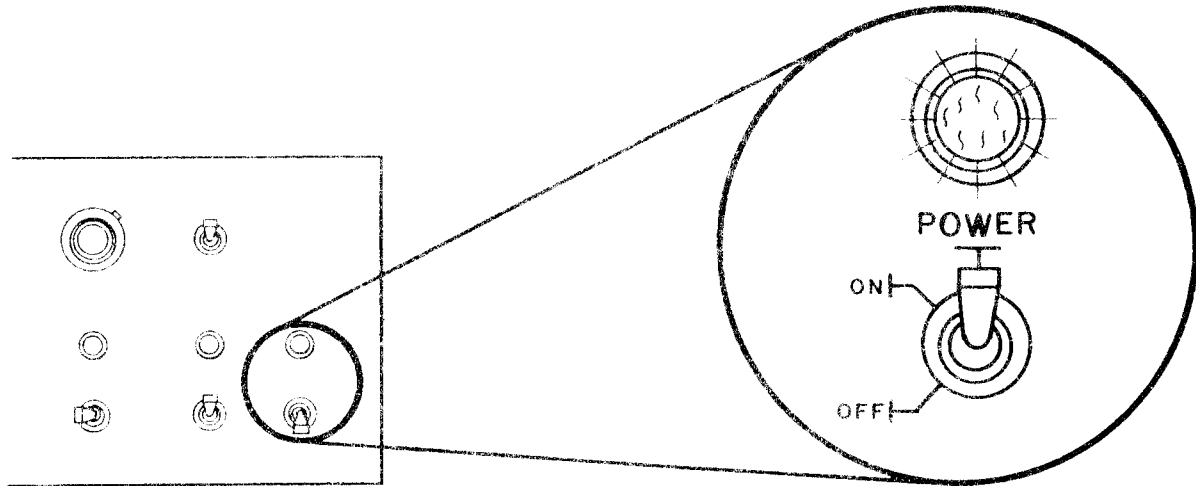

Figure 64. POWER Switch to ON
- f. On the front panel, flip the POWER switch to ON (see Figure 64).